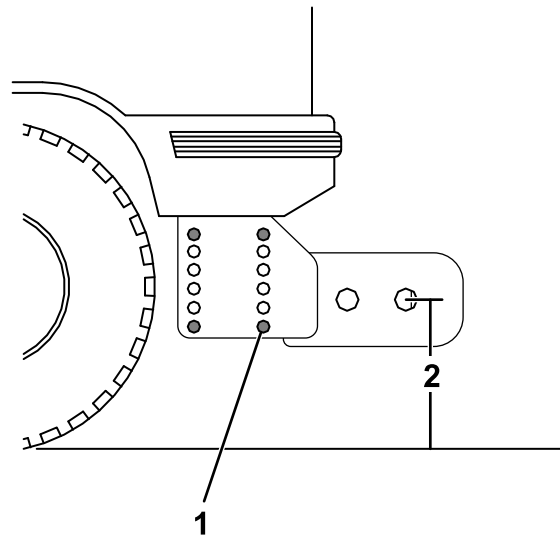

Figure 21
1. Measure the distance from the ground to the attachment pin holes on the undercarriage pushbeam (Figure 21). The distance should be 48.2 cm (19 inches).
2. If the pushbeam is not at 48.2 cm (19 inches), remove the fasteners securing the pushbeam to the undercarriage (Figure 21).